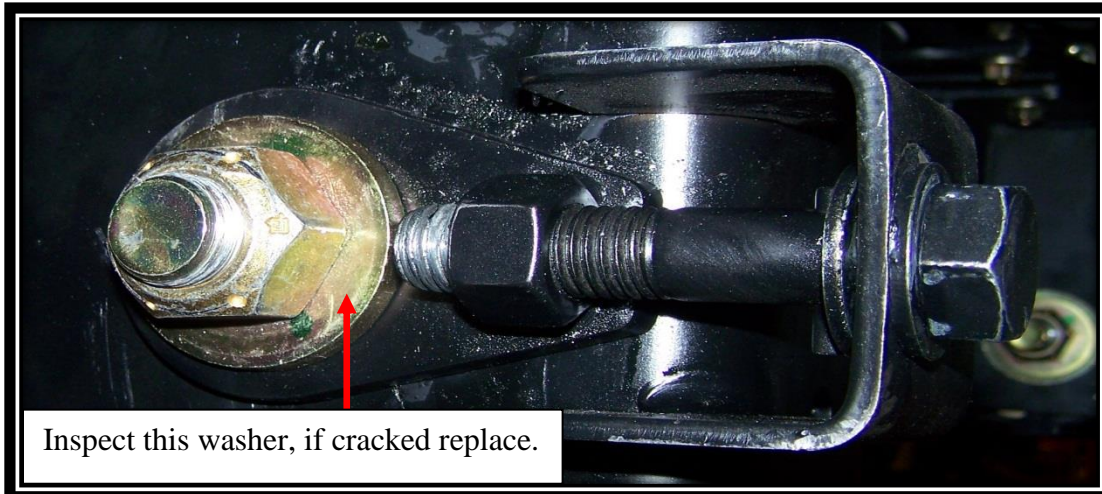

FIG. 2-2
3. On right side (passenger) shown below, inspect spring washer, if cracked remove nut and replace spring washer with crown out towards nut. Re-install nut and torque to 525 lbf-ft. Refer to FIG. 2-2.